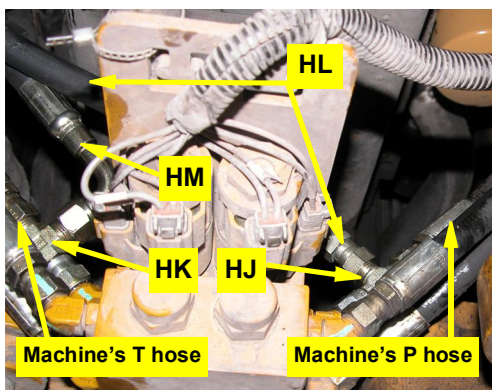
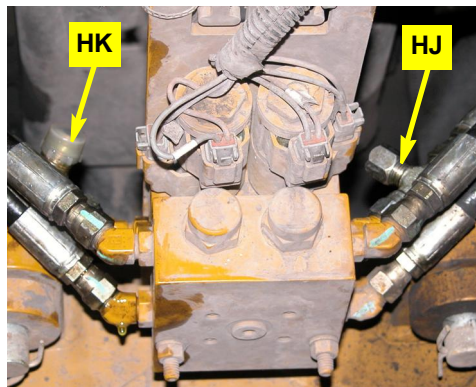

Figure 5a-i: Pressure and tank hoses connected at front axle valve block
Figure 4b: Pressure and tank run-tees installed. machine's hoses reconnected (not visible)
- a. Locate the pressure and tank hoses at the valve block behind the front axle (it actuates the front track width cylinders - Figure 4a with insets). Note that the **T** and **P** hoses and connections are not visible in the main picture - see the 4a insets and Figure 4b). The ports are marked **T** (left side - Figure 4a, left inset) and **P** (right side - Figure 4a, right inset). Disconnect the hoses.
- b. Install run-tees **HJ** and **HK** in the **P** and **T** ports respectively and reconnect the machine's hoses to the open 'T' ends of their respective run-tees (Figure 4b). Reconnect the machine's pressure and tank hoses to the open 'T' ends of their respective run-tees (not visible - but see Figure 5a-i).
- a. Connect pressure hose **HL** and tank hose **HM** to the stems of run-tees **HJ** and **HK** respectively (Figure 5a-i). Route the hoses across to the outside of the machine frame and back to the hydraulic steering block installed at step 3. Route the hoses with other plumbing and clear of moving parts. Secure routed hoses with tie straps **HO** (Figure 5a-ii).